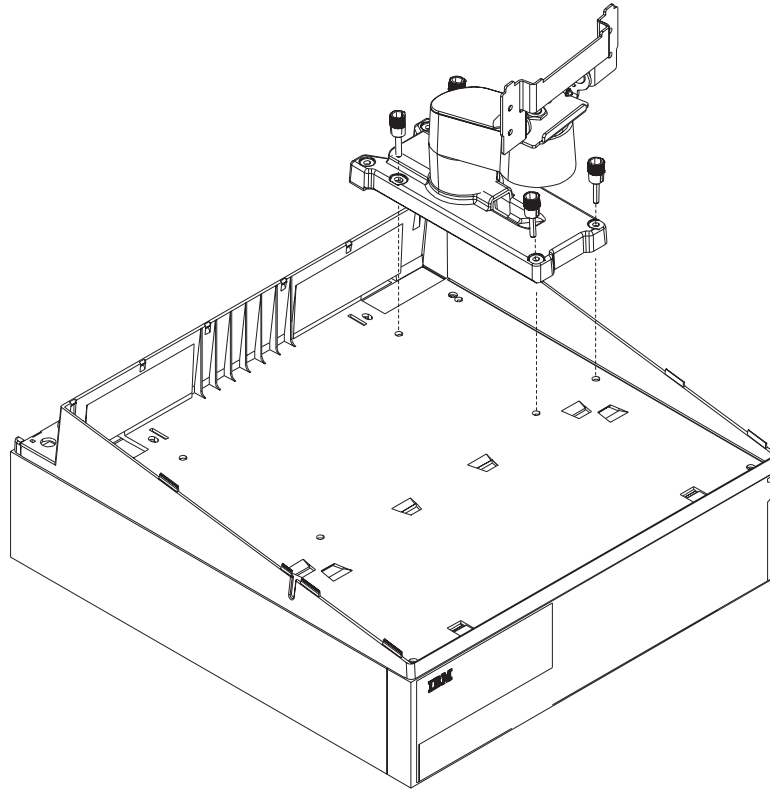

Figure 2-27. Securing the arm assembly to SurePOS 720, 740, 780
3. Place the arm assembly on the slant tray as shown in Figure 2-27. Insert and tighten the four thumb screws as shown.